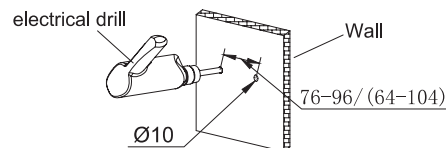

Figure 2
2. Mark the installation holes on the wall with the Yoke bracket. Drill holes in 10mm diameter. (Fig 2)